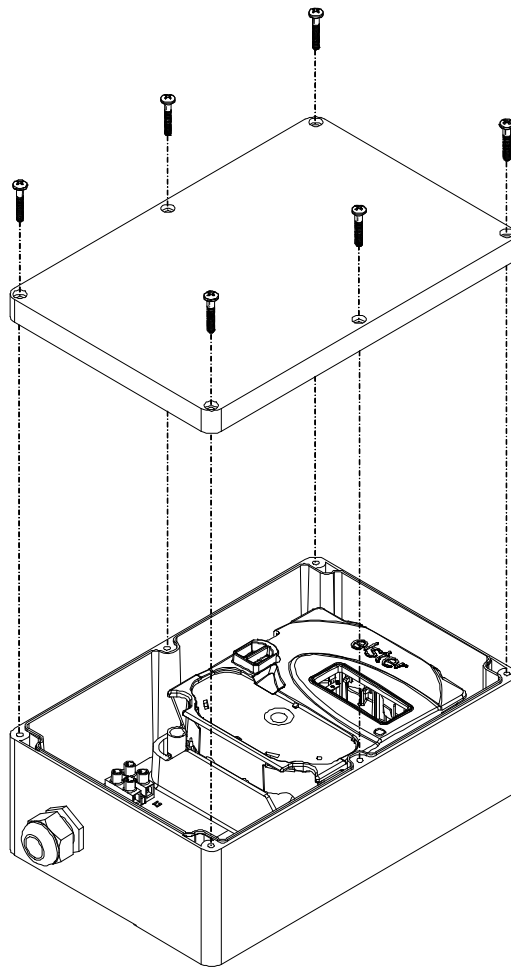
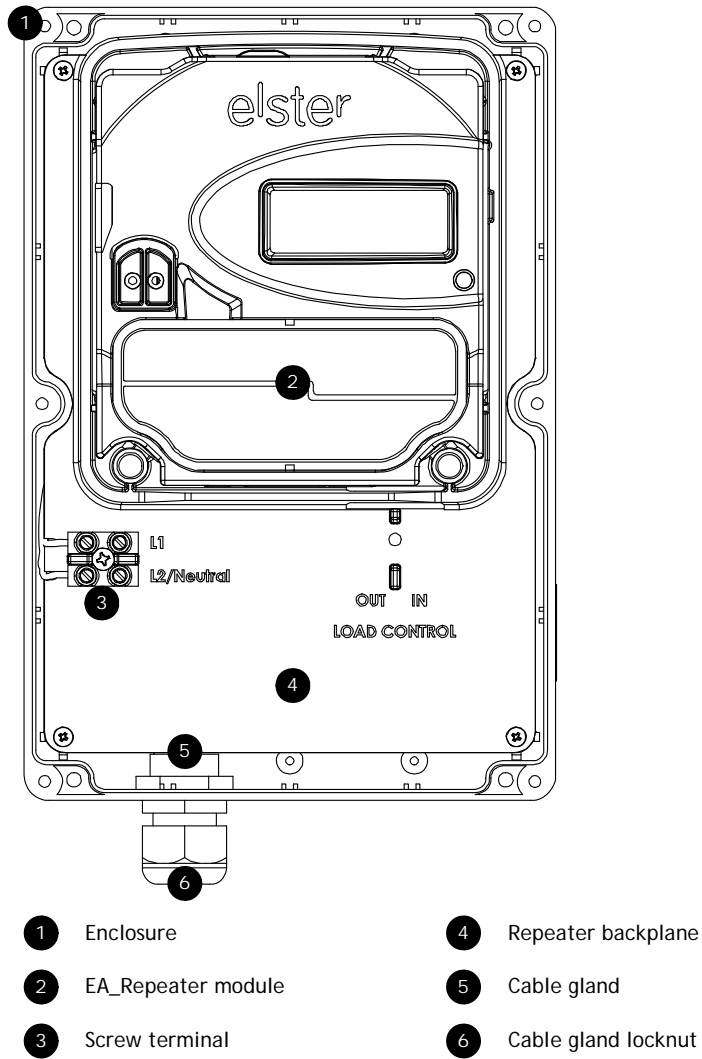

Figure 5. EA_Repeater cover
Figure 6. EA_Repeater components
1. Remove the front cover (see Figure 5) to expose the internal components of the unit (see Figure 6).